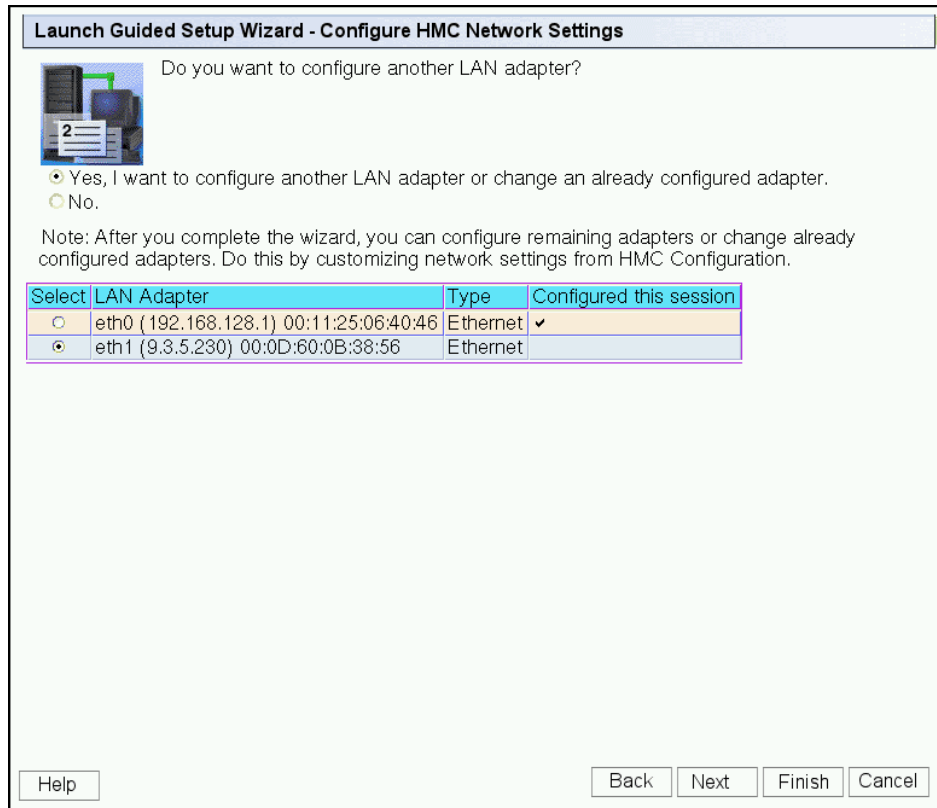

Figure 3-21 Launch Guided Setup Wizard - Configure HMC Network Settings
14. The Launch Guided Setup Wizard - Configure HMC Network Settings panel displays (Figure 3-21). This completes the network configuration for LAN adapter eth0 as a private network. We can proceed with network configuration for LAN adapter eth1 as an open network.